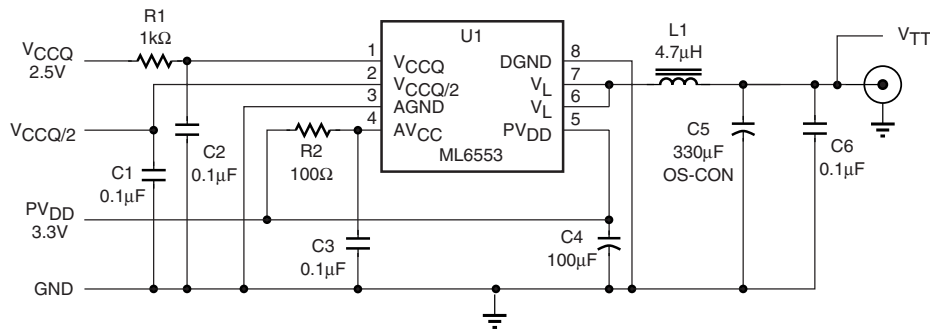

Figure 2. Application Schematic
- Specifications are taken from the application circuit in Figure 2 using the recommended component values.
A typical application circuit schematic is shown in Figure 2, and a sample layout is shown in Figure 3.
Where LDCR is the DC resistance of the output inductor, L1 in Figure 2, and 0.020 is the source resistance of the output VL. Both LDCR and 0.020 are in Ohms.